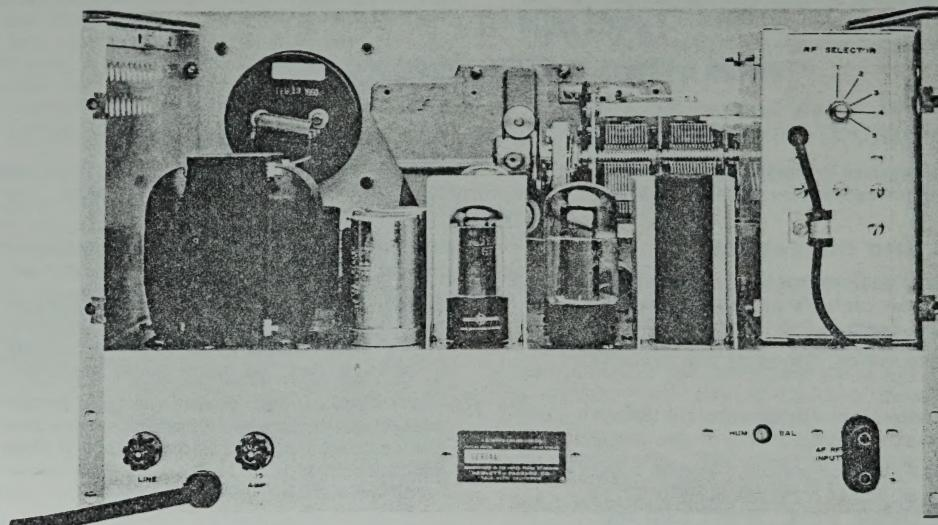

Figure 2-2. Rear View Model 330D
n. HUM BAL adjustment (on rear of instrument; see figure 2-2). Adjusted to minimize internally-generated noise.
(2) **RF SELECTOR** (on rear; figure 2-2). Selects one of five bands: